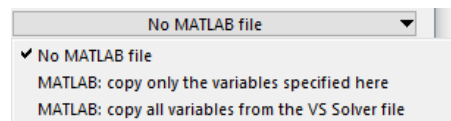

Figure 6. Options for making a MATLAB binary file.
- ③ Drop-down control with three options for making a MATLAB native binary file (extension MAT) with a subset of the output variables (Figure 6).